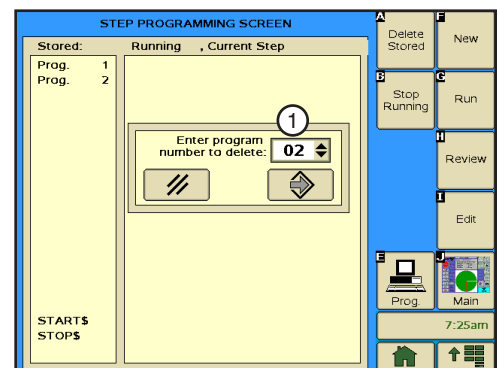

Figure 119-2
3. Select the **Program Number** field and choose the number of the program you want to delete. Refer to Figure 119-2.